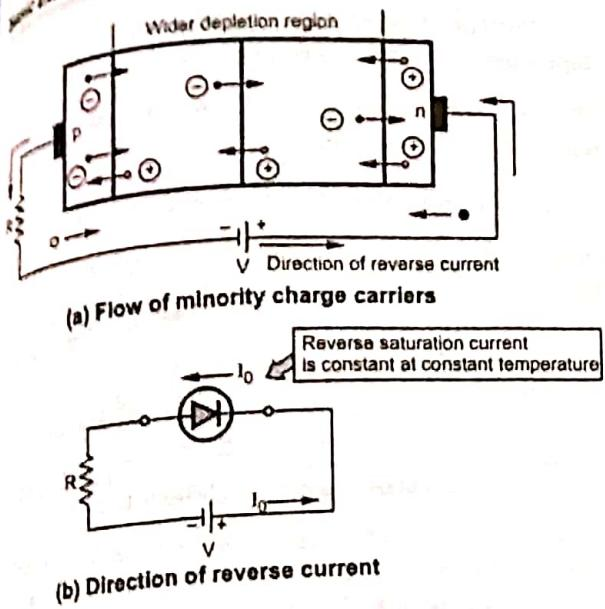

Fig. Q.5.4 Reverse biased diode
- For constant temperature, the reverse current is almost constant though applied reverse voltage is increased upto certain limit. Hence it is called **reverse saturation current** denoted as I_0 . This is shown in the Fig. Q.5.4.